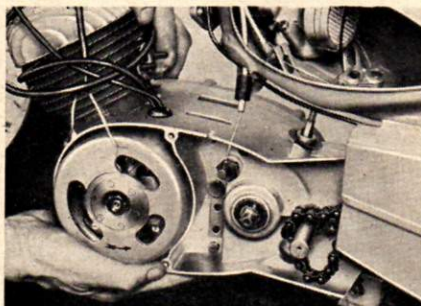

Fig. 18 Lifting engine from the chassis
13. With a similar spanner (SW 14) remove the M 8 x 50 hexagonal screw and spring ring securing the engine at the front from the left hand side. With one hand supporting the engine, draw it down out of the chassis as illustrated in fig. 18.